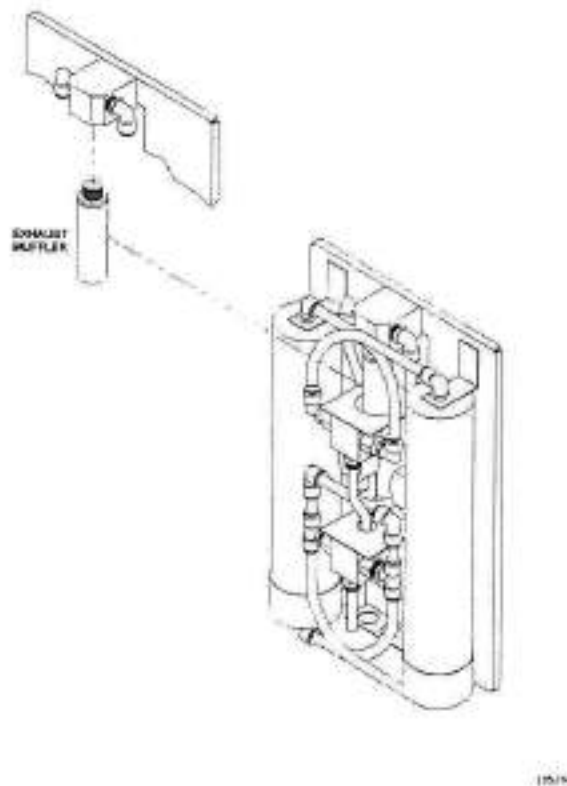

Figure 5-4. Standard Air Dryer Module (cover removed)
4. Locate the faulty exhaust muffler, unscrew by hand, and discard the muffler (see Figure 5-4).